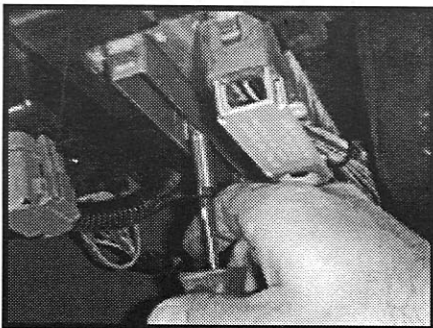

Fig. 6
6. Install JET PCM into the factory computer. Be sure to seat firmly in ECU. (see Fig. 6)